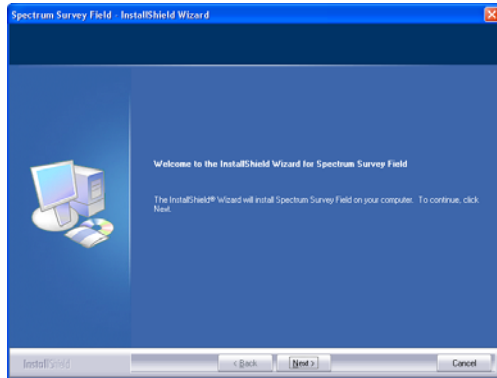

Figure 1-1. Welcome Screen
1. Run SokkiaSSFSetup.exe on your computer. The *Welcome* screen displays (Figure 1-1).